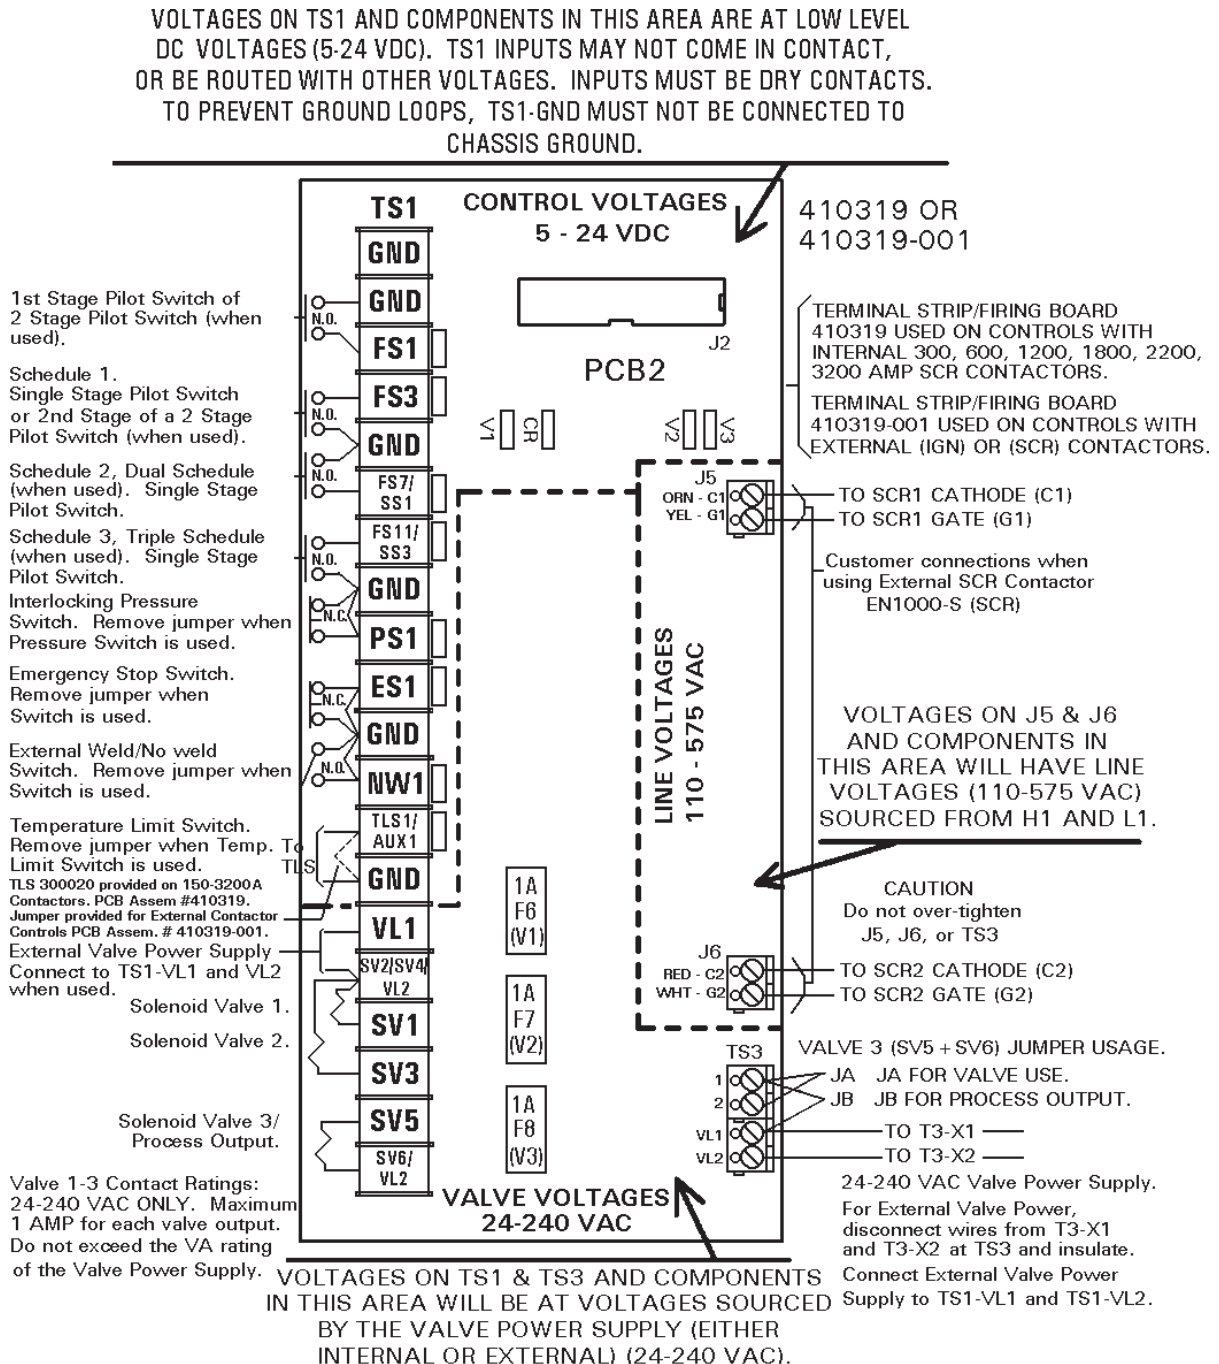
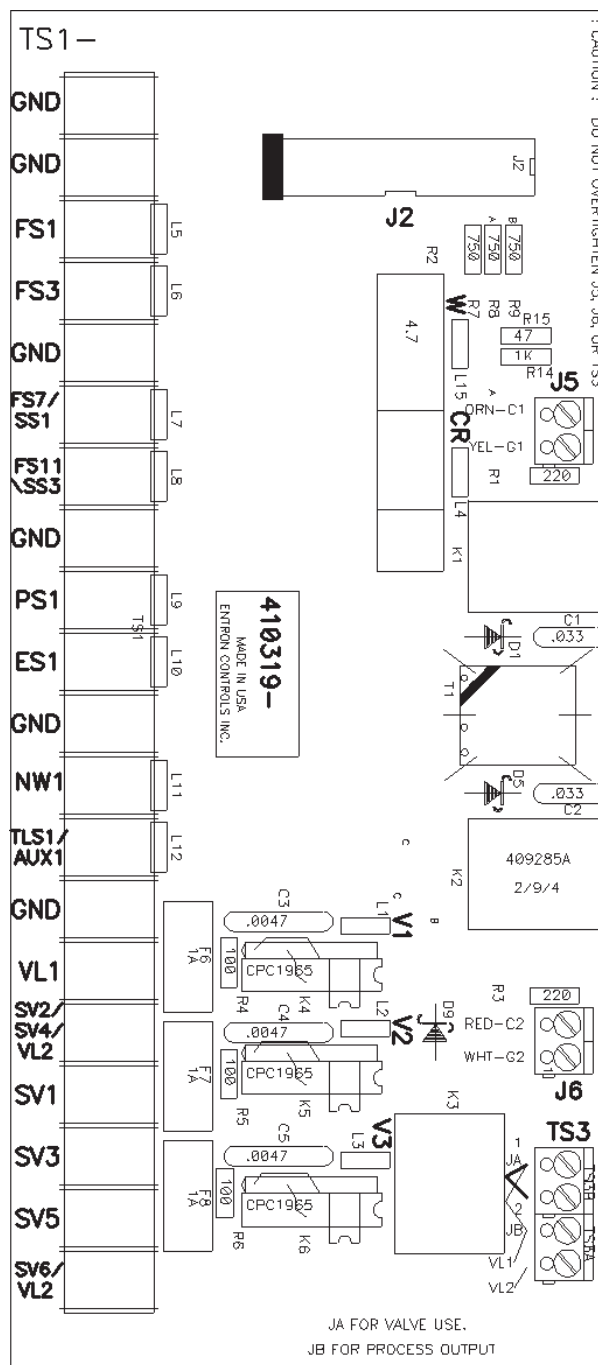

Figure 4-4. Terminal Strip/Firing Board
Figure 4-5. Component placement on new Terminal Strip/Firing Board
For most current revision of the component placement on this board, see Figure 4-5.
For hookup and all terminal connections, see Figure 4-4.
4.3.2 TERMINAL STRIP CONNECTIONS – See Figure 4-4 and Figure 4-5
4.3.2 TERMINAL STRIP CONNECTIONS (cont.) – See Figure 4-4 and Figure 4-5